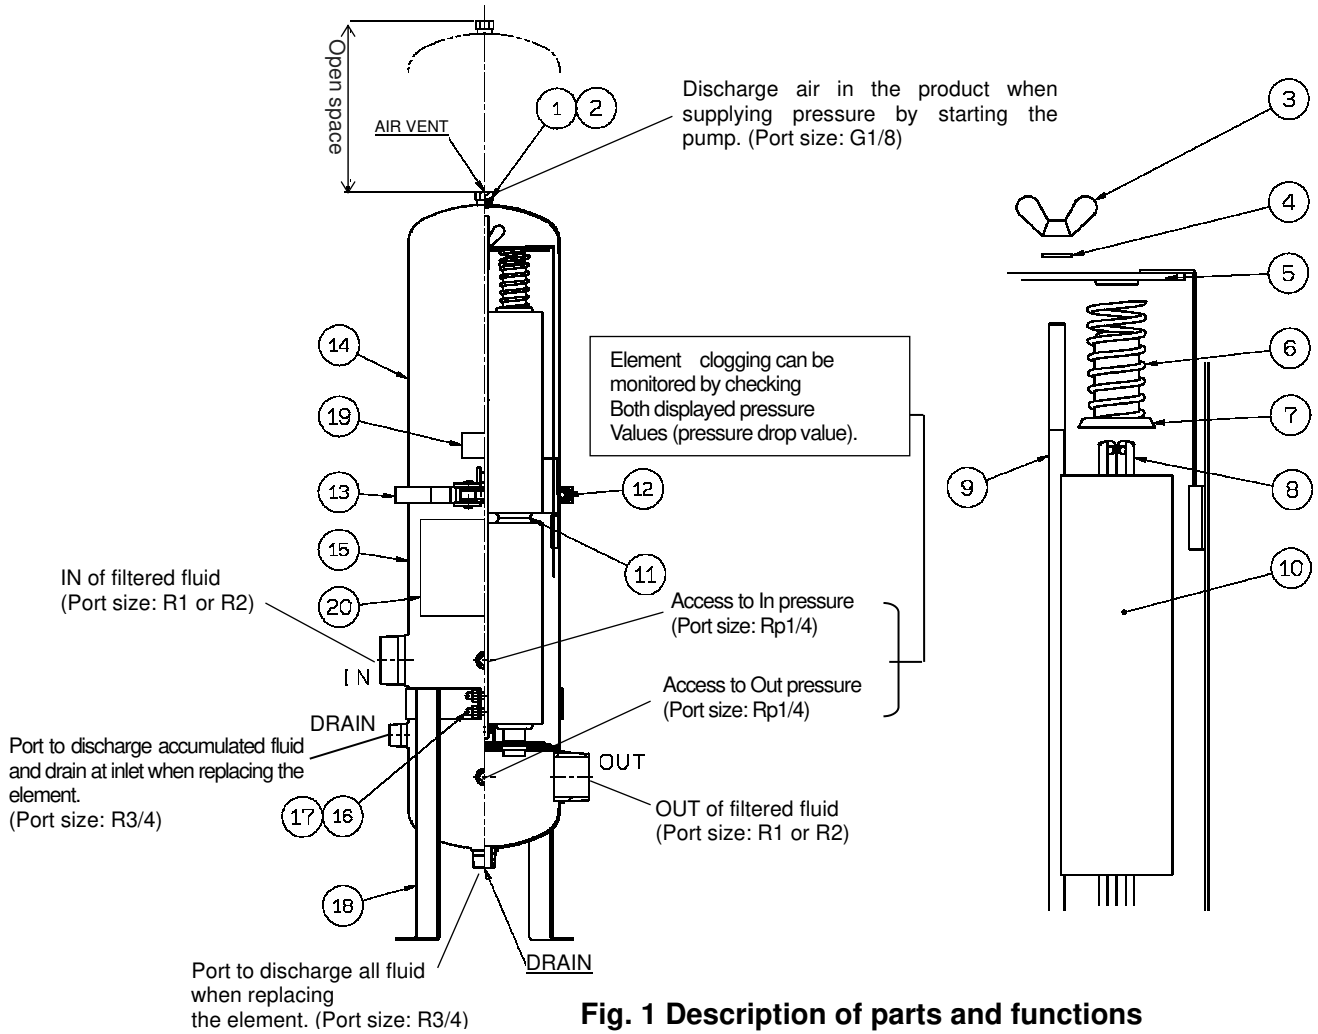

Fig. 1 Description of parts and functions
<p>5-2 [Removal of element]</p> <ol style="list-style-type: none"> (1) Remove the wing nut and the washer. (2) Remove the element retainer. (3) Remove the element mount bracket (a part integrating the element holder and the spring). (4) Take out parts in order of the element, then, joint (element guide). <p>* It is not required to remove the element guide forcibly. The element and joint can be removed simultaneously by removing the element guide. (Refer to Figure 1 on the left on page 7) (Note) Joint is not required for the sintered element or paper element.</p> <p>⚠ Caution Attention should be taken to avoid burning for high temp. type.</p>
- (3) Mount the element guide if it has been removed.
- (4) Insert components in order of element, joint, element and element mounting bracket so that they are aligned. (Refer to Figure 1 on the left on page 7)